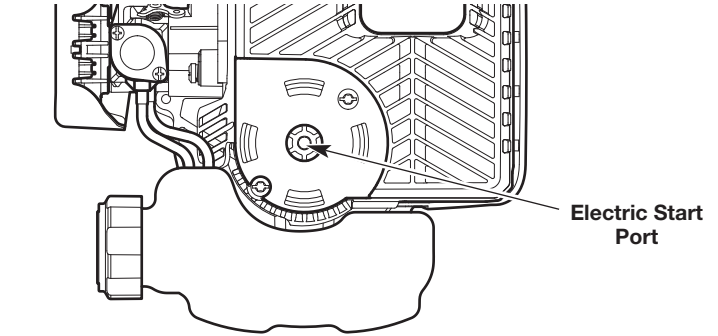

Fig. 12
4. Insert the electric start accessory into the electric start port (Fig. 12).